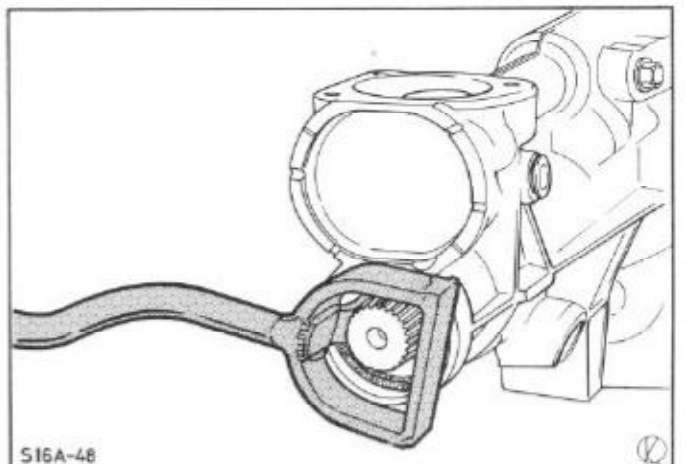

Fig.152. Remove the oil seal.
4. Remove the oil seal using special tool 21-051, Fig.152.